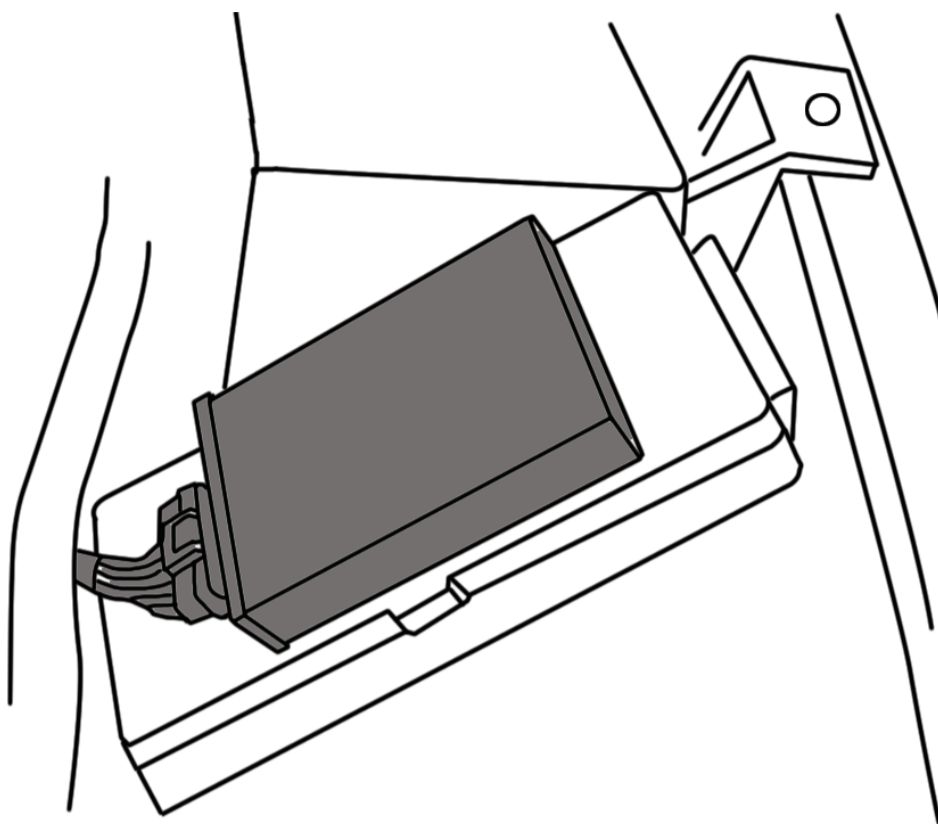

Figure 2 - Juice Module Mounting
1. Attach one side of each velcro strip to the back side of the Module and to the top side of a flat surface under the hood. (Figure 2) **NOTE: The best place is the top of the fuse box on the driver side. This will secure the Juice module and help keep it away from any moving/hot parts under the hood.**